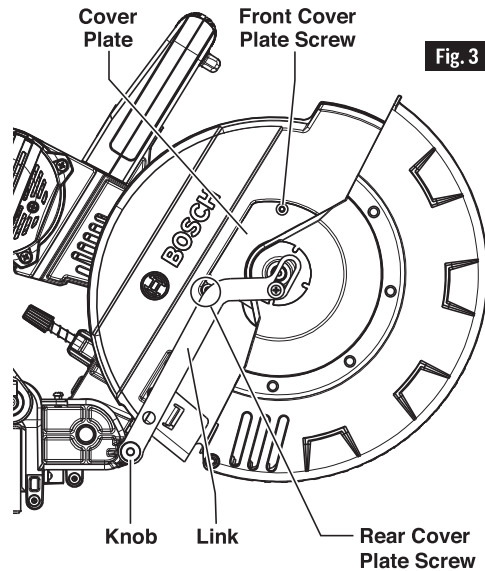
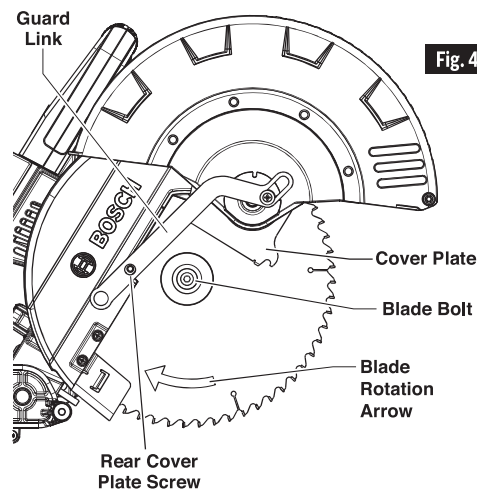

Fig. 3
Fig. 4
1. Position the saw in the UP position and at 0° bevel. If in the DOWN position, press down slightly on the saw head assembly and pull out the head assembly lock pin (item 43, page 12); then allow the saw head to come up (see Figure 3).
2. Unscrew the link knob (item 28, page 11) by hand from the pivot post and allow the link assembly to hang. The link knob will stay on the link.
5. Slide the cover plate down and out from the rear screw. Rotate the cover plate and lower guard counterclockwise around the front screw. While holding the lower guard up against the upper guard, move the link so its round hole can go over the rear screw – let go and the lower guard assembly will be held out of the way (see Figure 4).
2. Carefully handle the new blade. Check that the rotation arrow on the blade matches the rotation arrow on the lower guard. Slide the blade up and between the sides of the chip deflector and over the arbor shaft. Move the blade so its arbor hole goes around the support ring of the inner washer (see Figures 4 and 5).